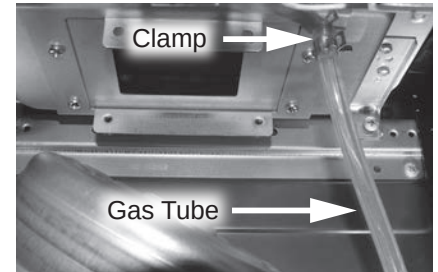

Figure 151 - Disconnecting clear gas tube
- 43** Locate the clear gas tube connected to the gas valve and primary heat exchanger assembly. Disconnect the clear gas tube from the primary heat exchanger assembly. See Figure 151.
76 Locate the clear gas tube previously disconnected in **Step 43**. Connect the clear gas tube to the primary heat exchanger. See Figure 151.